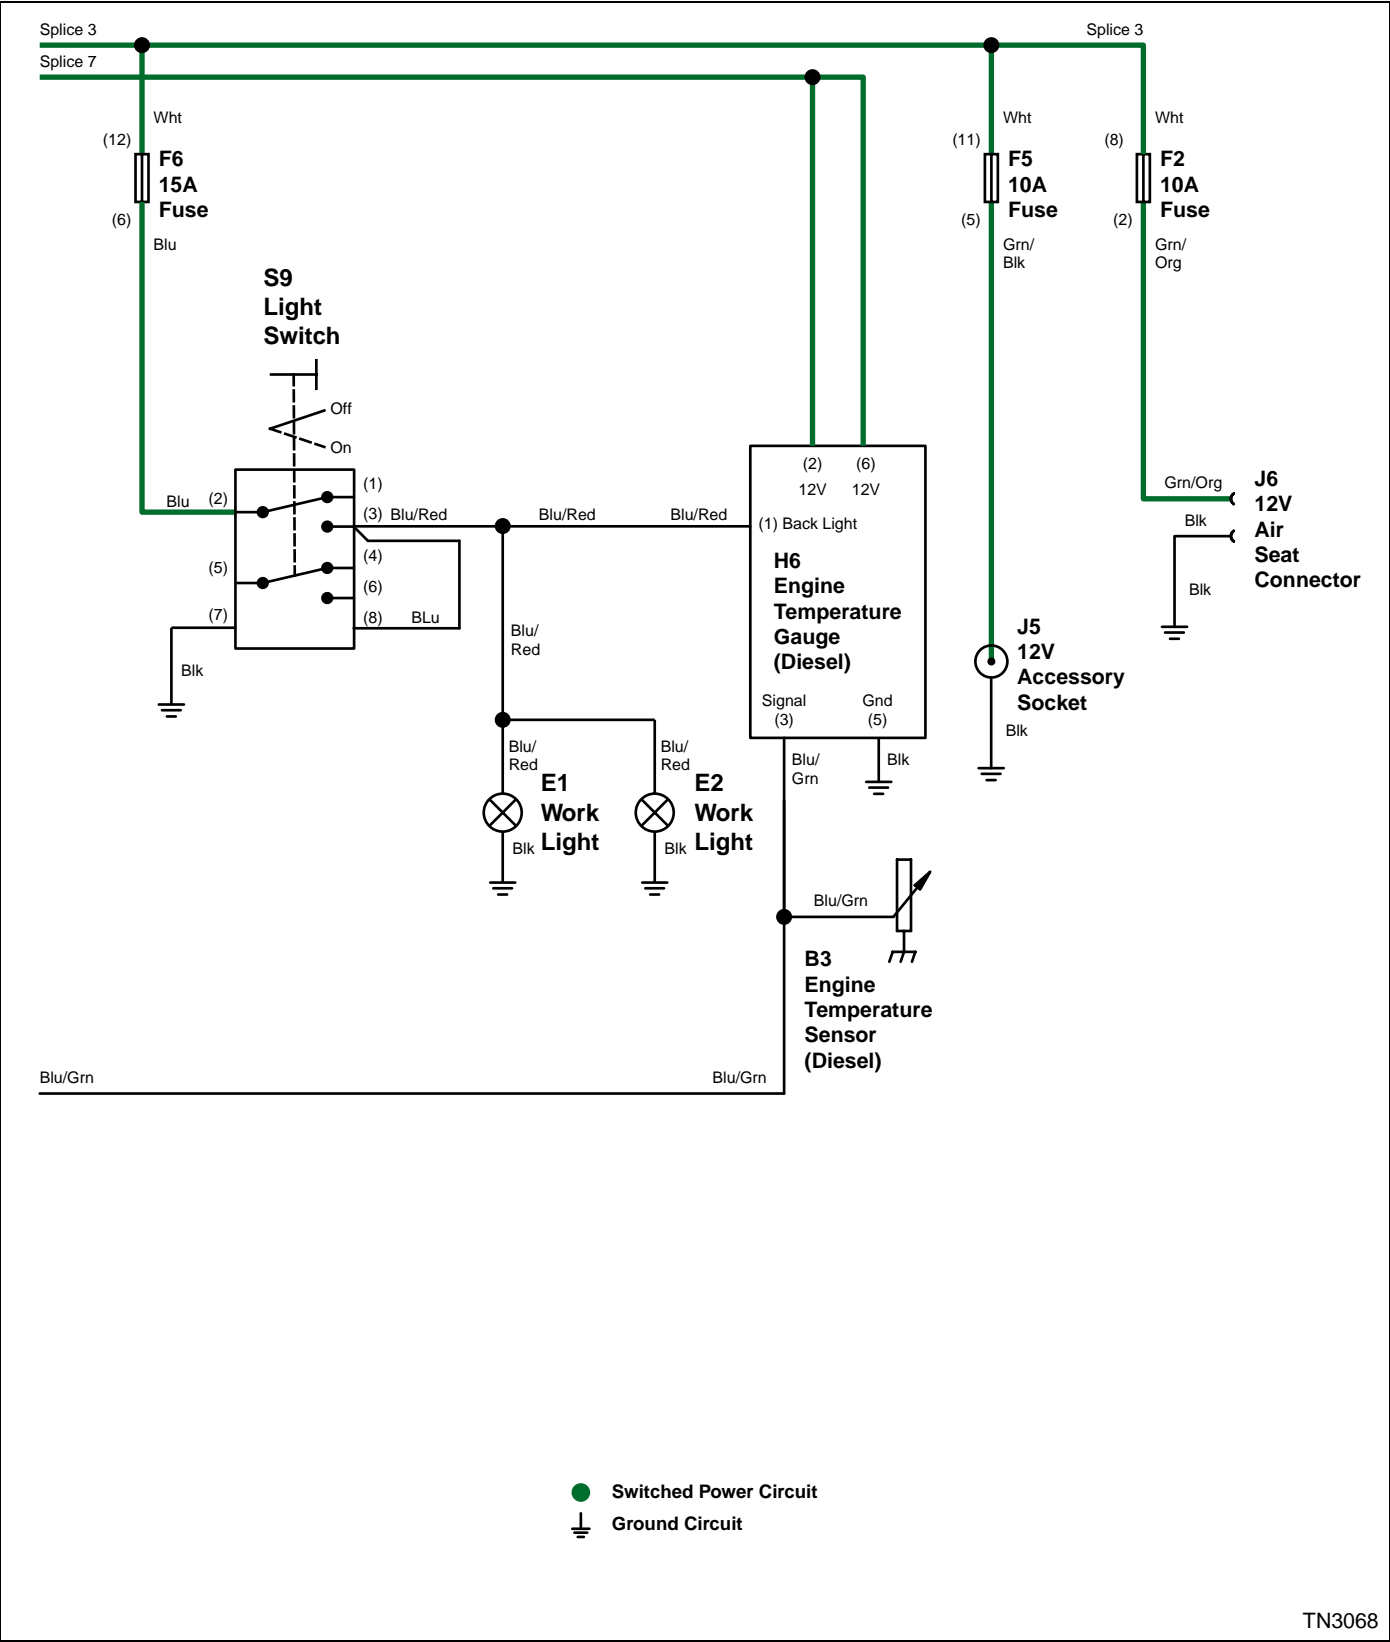

Figure 4-5
- B3—Engine Temperature Sensor (See Figure 4-5.)
- E1—Work Light (See Figure 4-5.)
- E2—Work Light (See Figure 4-5.)
- F2—10A Fuse (See Figure 4-5.)
- F5—10A Fuse (See Figure 4-5.)
- F6—15A Fuse (See Figure 4-5.)
- J5—12V Accessory Socket (See Figure 4-5.)
- J6—Air Seat Connector (See Figure 4-5.)
- J7—Paddle Option Connector (See Figure 4-5.)
- S9—Light Switch (See Figure 4-5.)